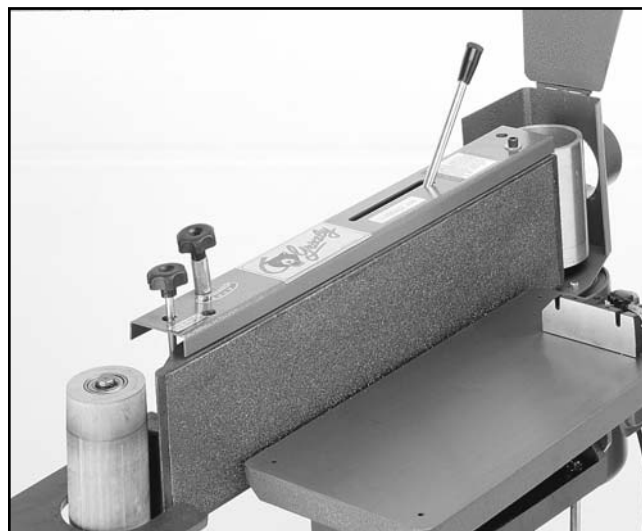

Figure 17. Sander ready for belt installation.
1. Loosen the belt tracking lock knob on the top left of the machine. Open the lid of the dust port and move the quick release lever to its locked open position. **See Figure 17.**